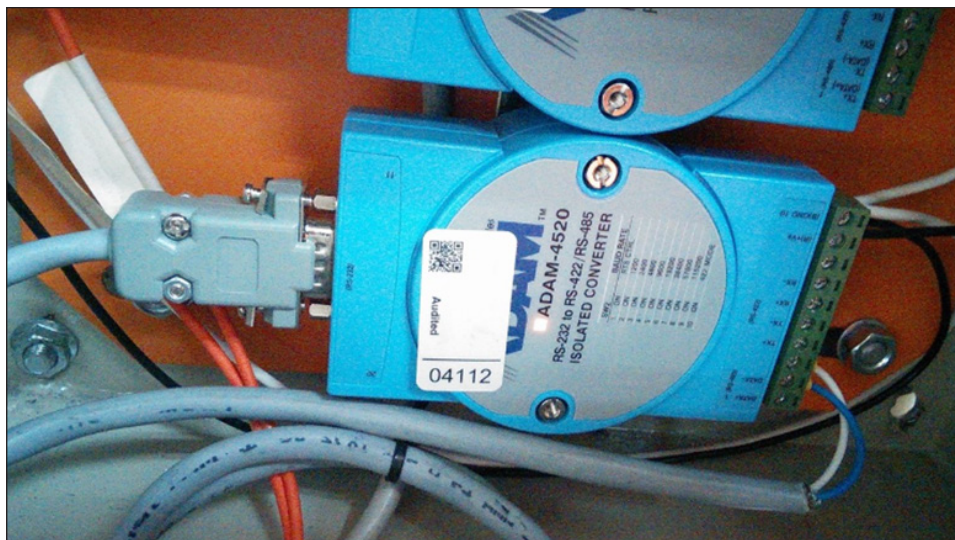

Figure 2. Legacy devices can be hard to identify in inventory systems.
- ▶ The range of device types is much larger and includes many firmware and software solutions that are not designed to interact with asset management solutions (Figure 2).